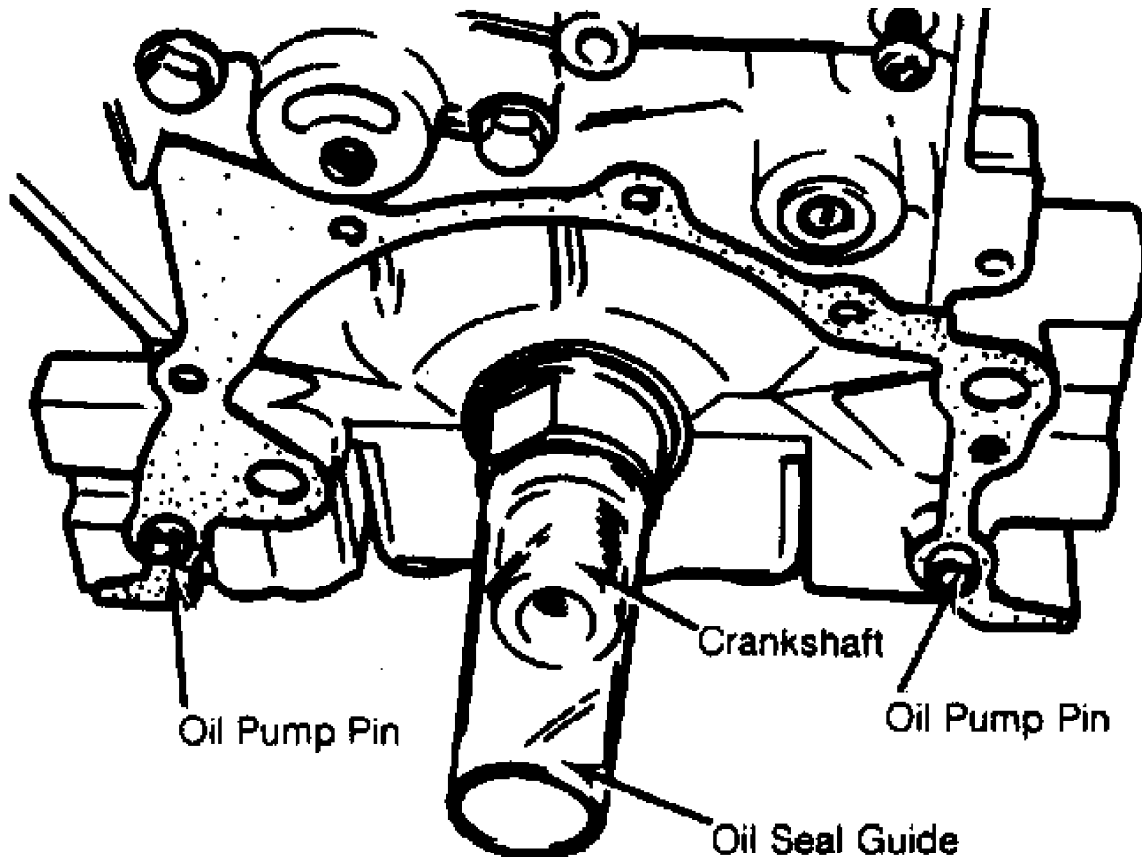

Fig. 5: Installing Oil Seal Guide
2) Install gear plate. Tighten 5 screws. Install 2 oil pump pins, NEW dipstick "O" ring, NEW seal for oil pick-up tube and NEW oil pump gasket. Use Oil Seal Guide (09926-18210) to prevent damage to oil seal during installation of oil pump. See Fig. 5.